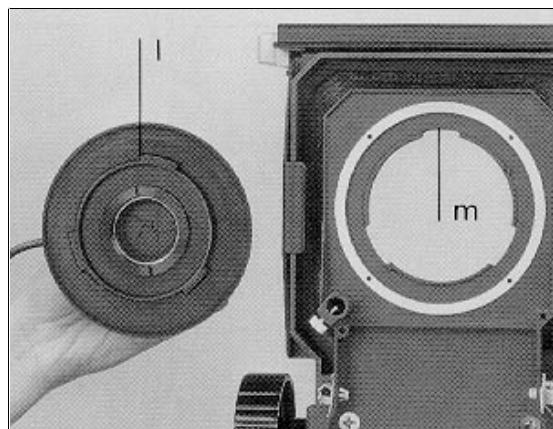

Figure 2-18. Small Tab on Shutter
- b. Align the smallest of the three tabs (l, figure 2-18) on the shutter panel with the smallest of the cutouts (m) on the camera body.